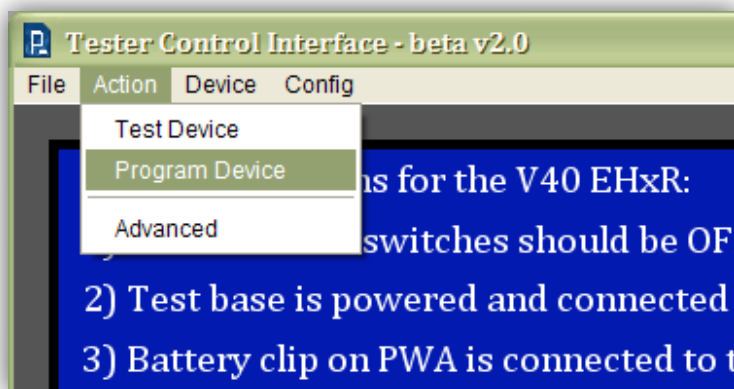

Figure 7
- 3) Program the device by selecting "Program Device" from the Action menu (Figure 7), or by pressing "p" on the keyboard. The QuickWriter program will open and attempt to auto program the device.